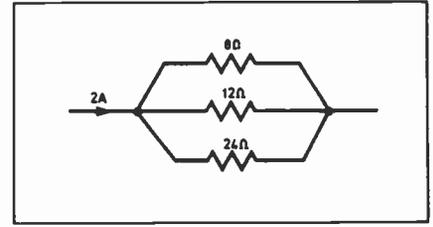

Fig. 2.6. Which is the best way of solving the current distribution – by resistance or conductance?
In Fig. 2.6 we have three resistors in parallel. The current flowing into this circuit divides inversely as the resistances but directly as the conductances. So if the resistances are R_1 , R_2 and R_3 respectively, the current divides among them in the ratio $1/R_1$, $1/R_2$ and $1/R_3$, or as G_1 , G_2 and G_3 . Hence we can say
6. The resistors of Fig. 2.6 are respectively 8, 12 and 24Ω. If the total current is 2A, find the current in each branch.